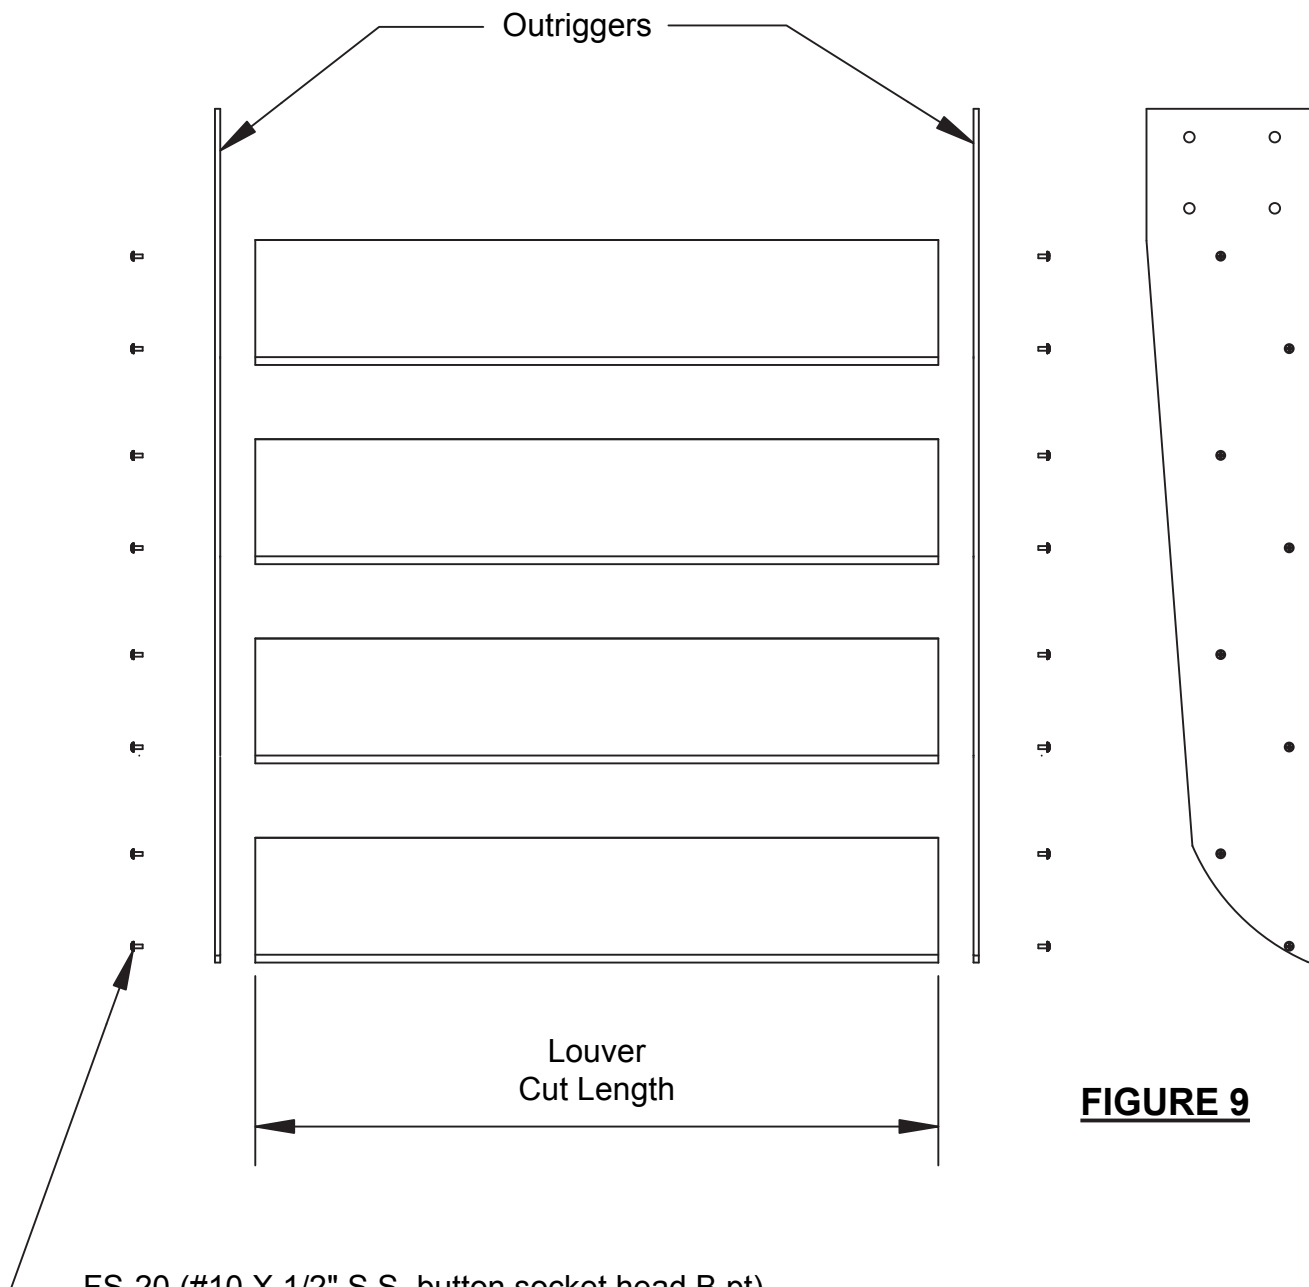

FIGURE 9
- 16) Cut louvers to fit between outriggers per formulas shown on FIGURE 9.